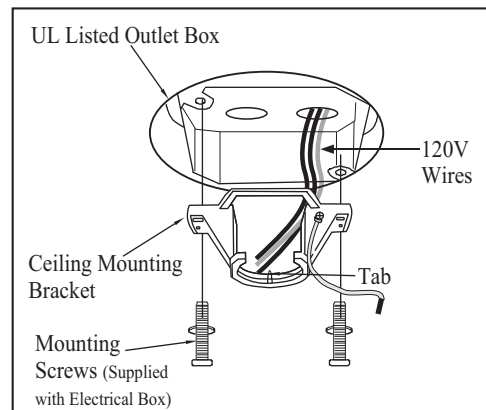

Figure 7
1. Pass the 120-volt supply wires through the center hole in the ceiling mounting bracket as shown in Figure 7.
2. Install the ceiling mounting bracket on the outlet box with the screws and washers provided with your outlet box. (Figure 7)